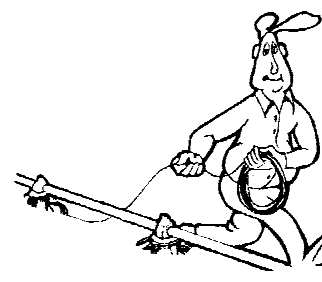

Figure 81. Unrolling the Cable
1. Unroll the bulk anti-roost cable. Note: If the cable is unrolled as shown in **Figure 81**, taking 5 loops of the coil with one hand, then changing hands to remove 5 loops as it is unrolled, it will lie flat during installation.